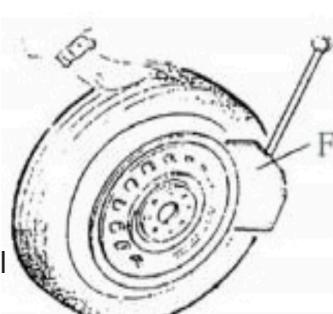

Fig 5
Check that there is no air in the tire. Place the tyre against the rubber cushion (S). Press the clincher (F) against the clincher at approx. 10 mm from the rim edge (Fig. 5). Press the pedal of the clinch press (U) to press the press onto the tire. Repeat the same on several points of the tyre on both sides to get the clinch off the rim.